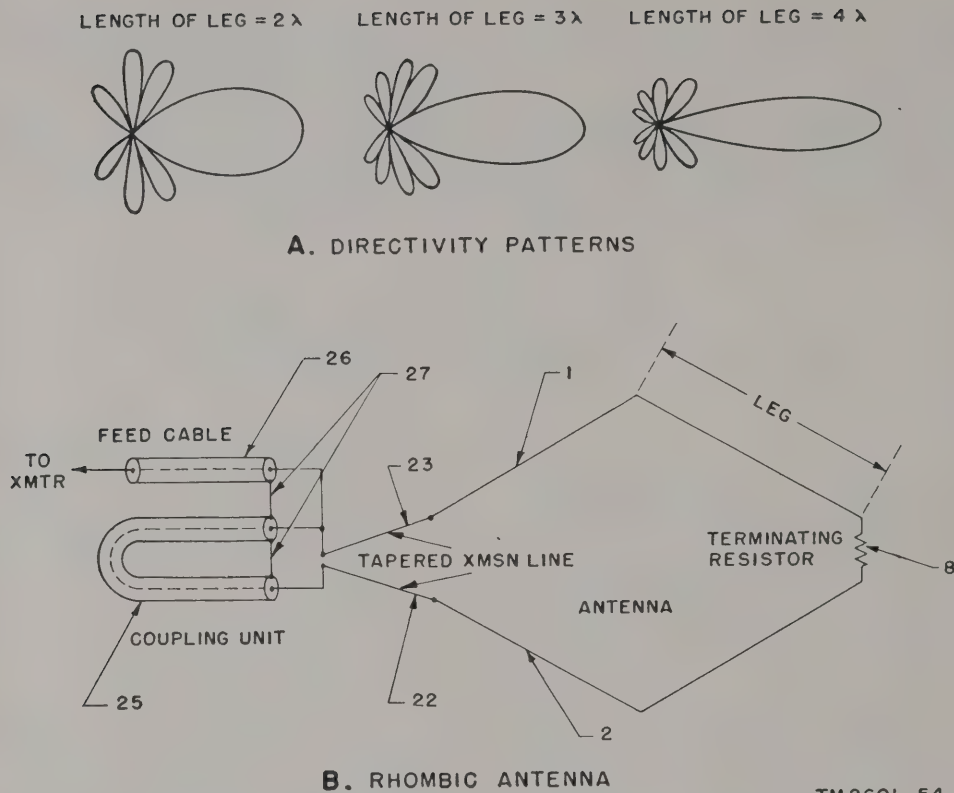

Figure 64. Rhombic antenna, circuit diagram showing directivity patterns.
- (1) Height of the transmitting antenna.
- (2) Height of the receiving antenna.
(3) Gain of the transmitting antenna (above the 6 db of Antenna AS-20(*)/TRC-1).
(4) Gain of the receiving antenna (above the 6 db of Antenna AS-20(*)/TRC-1).
(5) Power output of the transmitter to the antenna.
(6) Sensitivity of the receiver.
b. Since the power output of the transmitter (or of the transmitter and amplifier) and the sensitivity of the receiver are fixed by their design so that no improvement other than careful tuning can be made in the field, and since all antennas will be placed in as advantageous positions as possible, only the gain of the antenna systems can be improved. Correct use of the rhombic antenna (fig. 64) effectively quadruples the signal power in the desired direction over that normally transmitted by Antenna AS-20(*)/TRC-1, because the rhombic at the average height of 25 feet (measured from the ground to the terminating resistor) has an inherent gain of 6 db over Antenna AS-20(*)/TRC-1 at 40 feet (par. 66b).
The transmission line coupling system causes the unbalanced-to-ground 50-ohm impedance of the feed cable, Cord CD-800 or CG-107/U, to become balanced with its impedance quadrupled to approximately 200 ohms by means of a half-wave matching section (item No. 25, figs. 64 and 67) of Cord CD-800 or CG-107/U. This unit is connected to two transmission line cables (items Nos. 22 and 23, fig. 67) at a point where the line impedance is approximately 200 ohms so that a satisfactory match results. The transmission line tapers outward to a point where its impedance closely matches the input impedance of the antenna, and there it is connected